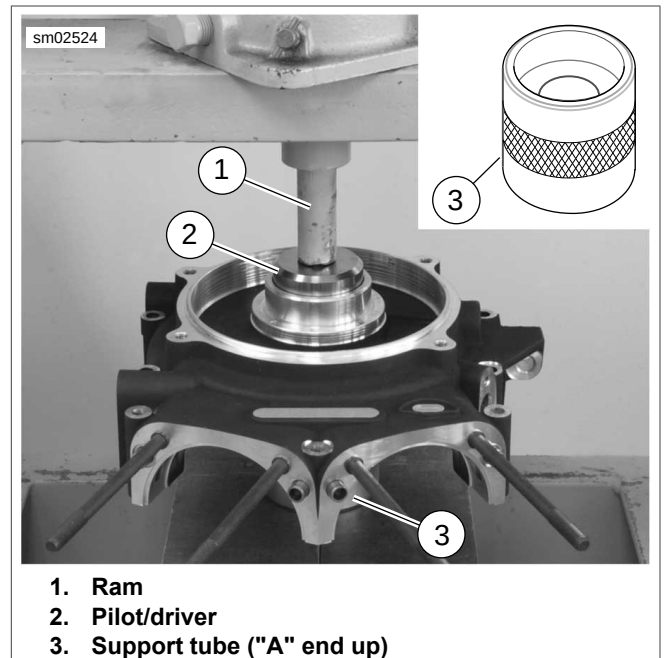

Figure 3-137. Left Main Bearing Removal
8. See Figure 3-137. Place support tube (3) on press table with "A" end up. Note that support tube is stamped "A" and "B" to provide proper orientation.
10. Slide pilot/driver (2) through the main bearing into support tube (3).
11. Center pilot/driver under ram (1) of press. Apply pressure to pilot/driver until bearing is free.